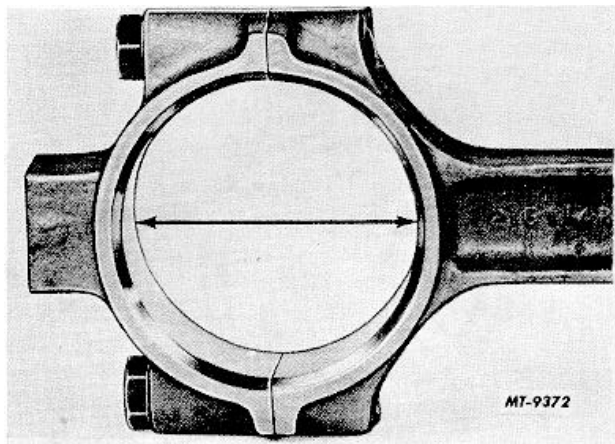

Fig. 78
4. Bore Size: To obtain the proper bearing insert crush, the bore must be of specified size (see specifications), Fig. 78.